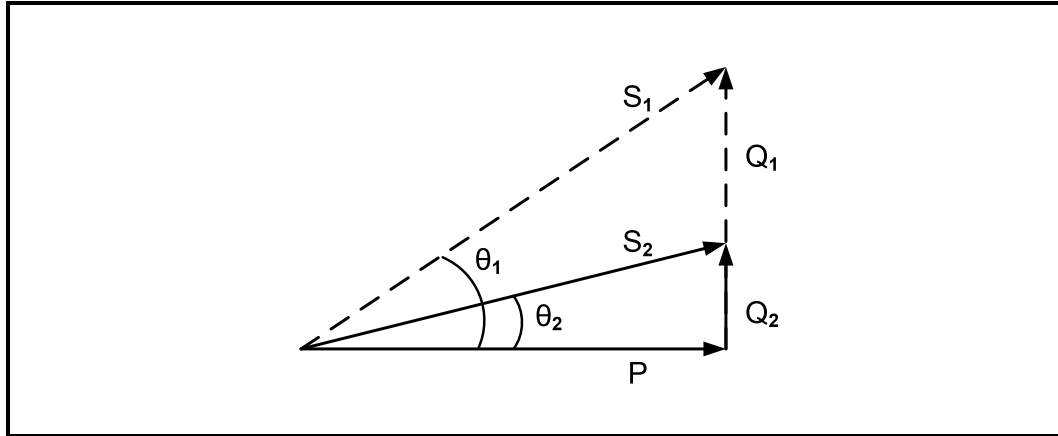

FIGURE 4.4: POWER FACTOR CORRECTION
- 4.4 FIGURE 4.4 below shows the result of power factor correction in a three-phase system. The supply voltage and load remained the same throughout the process. S_1 and Q_1 are original values with S_2 and Q_2 the values after power factor correction was done.
- 4.4.2 Identify ONE improvement with reference to FIGURE 4.4 above. (1)